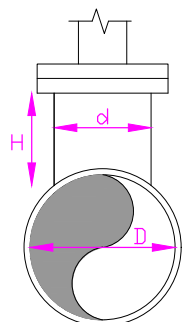

FIGURE 2C: OVERSIZED OFFTAKE FOR OVER MAIN AIR VALVE
• SUITABLE WHERE THERE IS LIMITED COVER AND FIGURE 2C IS IMPRACTICAL, or